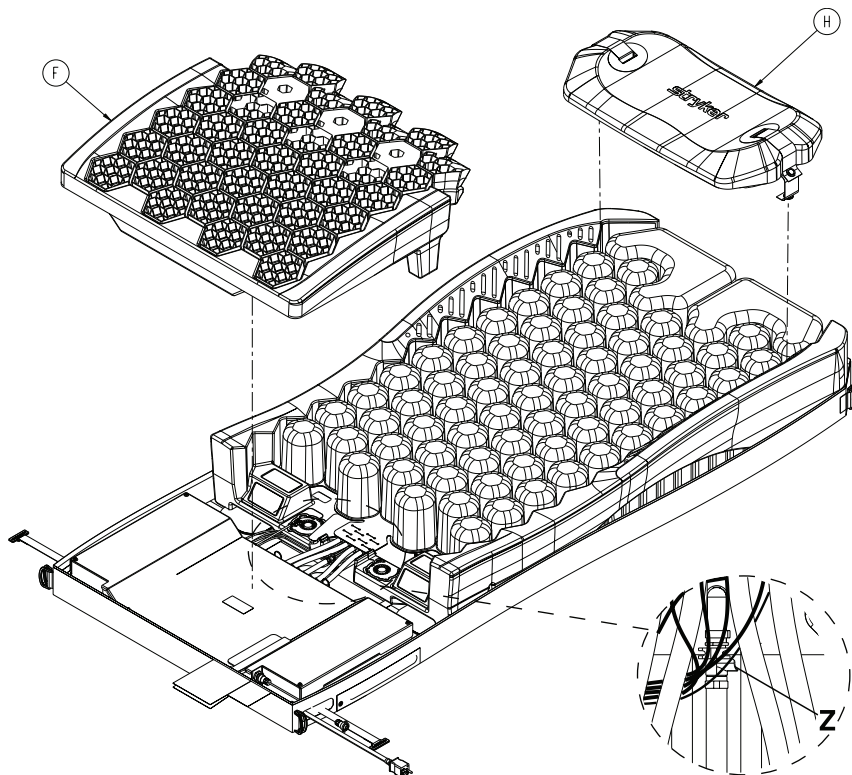

Figure 1-12: Gel crib, pillow, and quick disconnect fitting
2. Unsnap the pillow (H) from the left and right side of the pod assembly (Figure 1-12 on page 1-37). Save the pillow.
4. Remove the foot section gel crib (F) by lifting upward (Figure 1-12 on page 1-37). Save the gel crib.
5. Disconnect the quick disconnect fitting (Z) (Figure 1-12 on page 1-37).